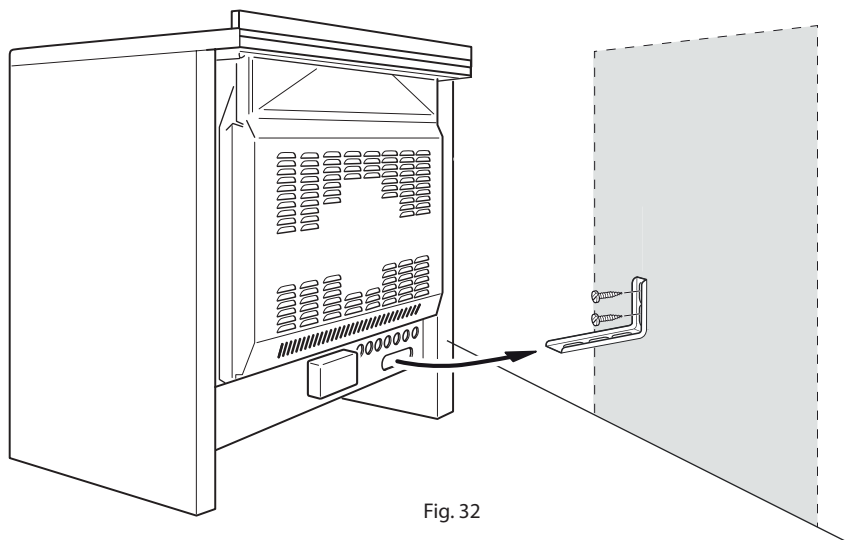

Fig. 32
Please follow the indications given in fig. 32.
4. Move the cooker to the wall and adjust the height of the anti-tilt bracket so that it can engage in the slot on the cooker's back, as shown in fig. 32.